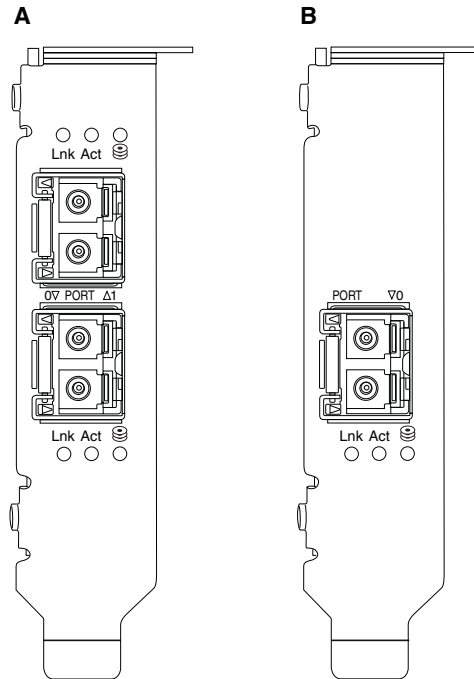

FIGURE 19 LED locations for Brocade 1020 CNA (A) and Brocade 1010 CNA (B)
Figure 19 illustrates LED indicator locations on a Brocade dual-port 1860 (A) and a Brocade single-port (B) stand-up Fabric Adapters. LED indicators for each port are visible through the mounting brackets.
Figure 19 illustrates LED indicator locations on a Brocade 1020 (A) and a Brocade 1010 (B) stand-up CNA. LED indicators for each port are visible through the mounting brackets.